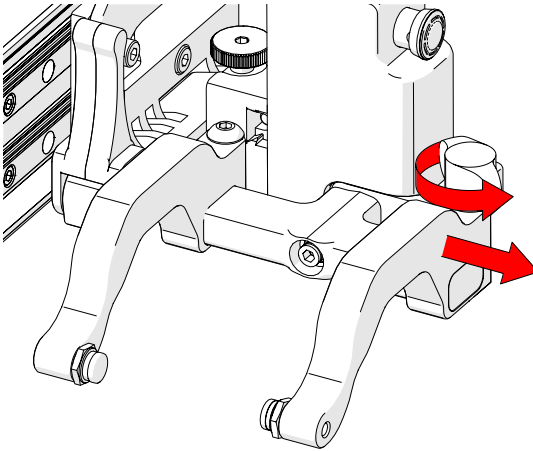

Fig. 128 - Remove outer arm
3. Loosen the probe holder arm adjustment knob and remove the outer probe holder arm (Fig. 128).